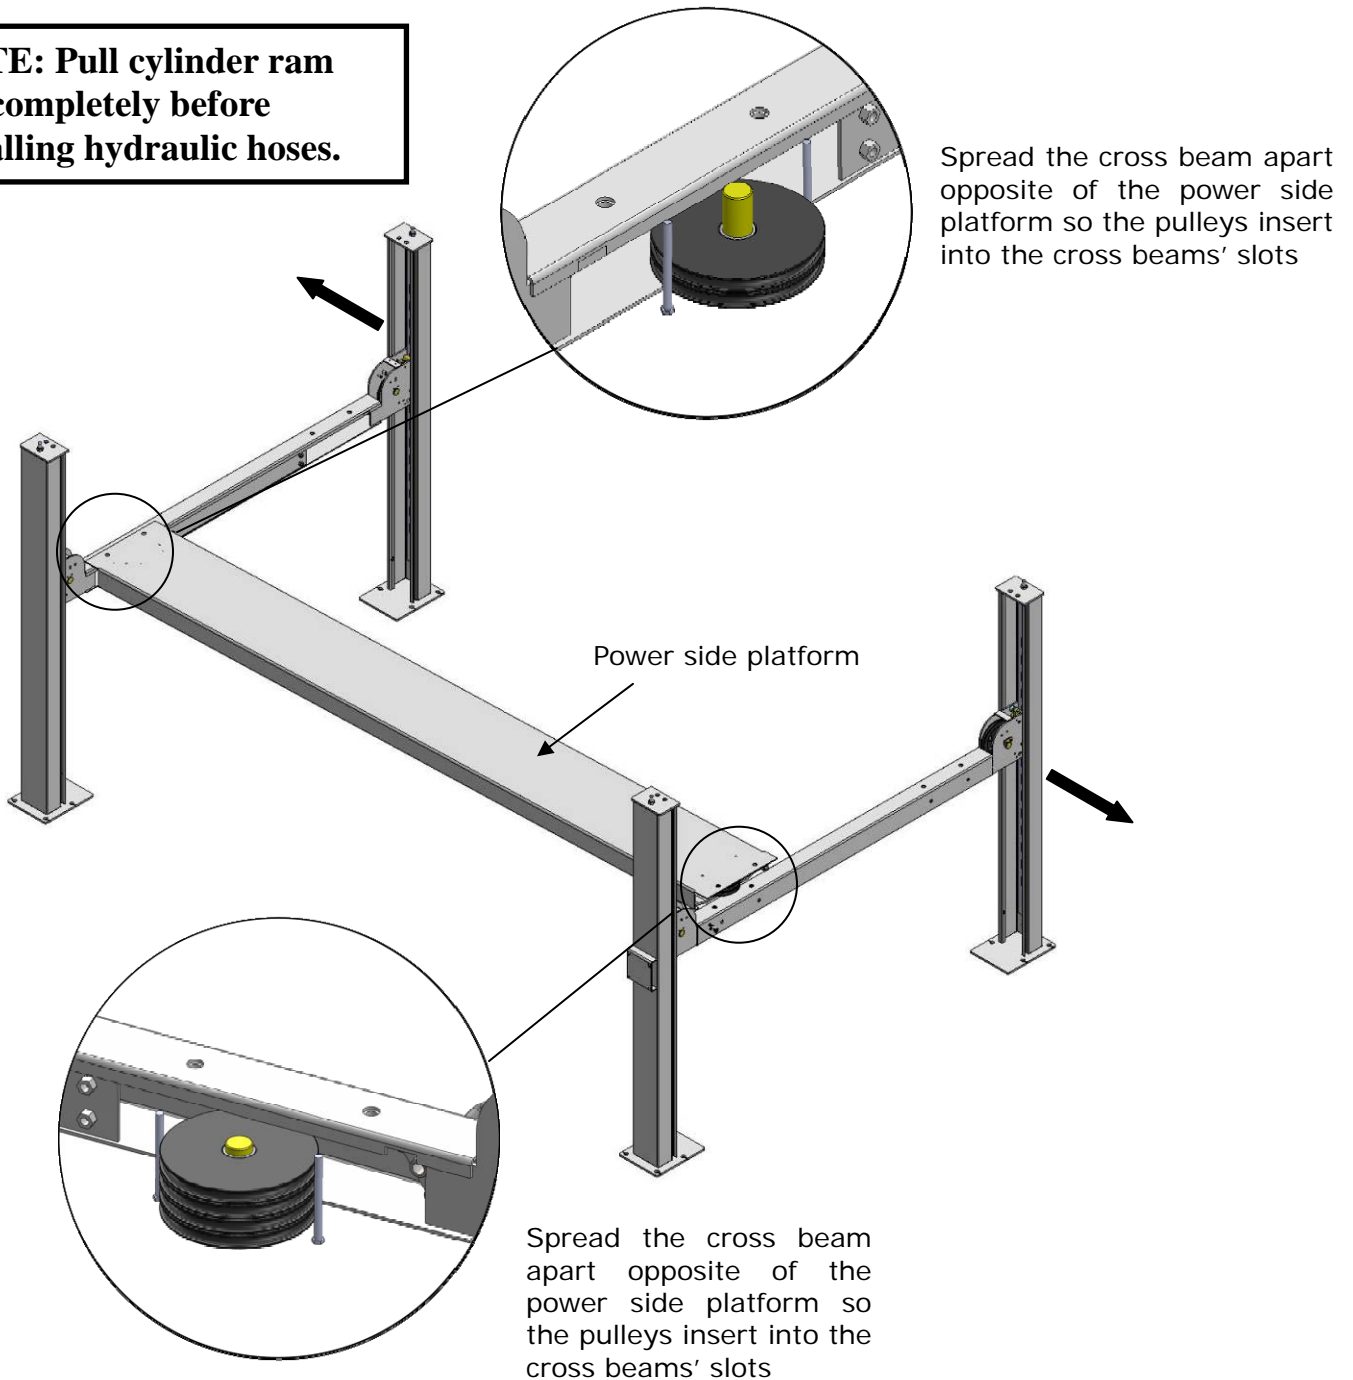

Fig. 15
1. Install the power side platform on the cross beams by a fork lift or other lifting device, offset the cross beams (**spread opposite corners**) to the outside until the pulleys on both platforms can rest into the cross beams' slots (**See Fig.15**), Install the power side platform and install the bolts (**See Fig.16**). Do not tighten bolts until the offside platform is installed.